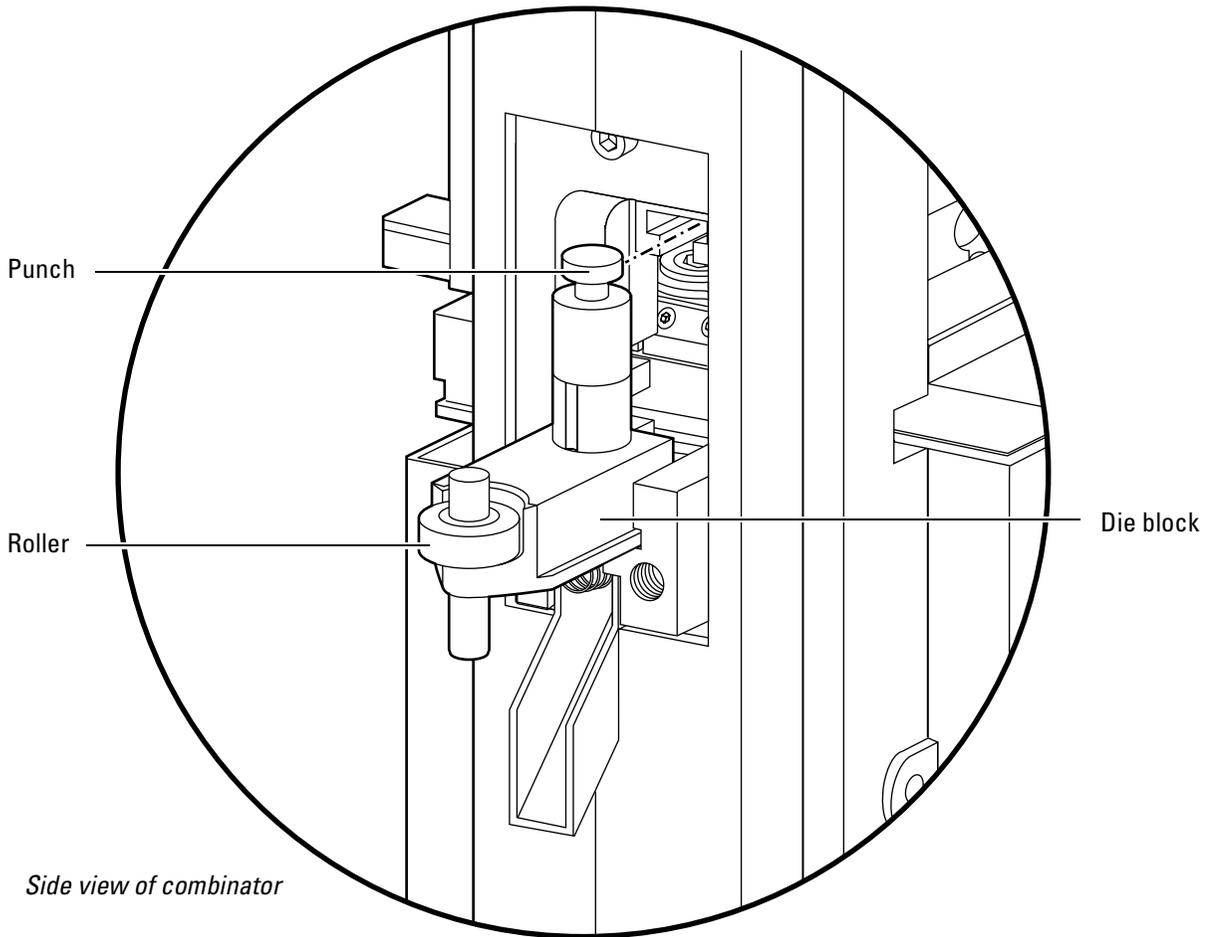

Figure 3.24 Lubricating the punch and die
2. Apply one drop of oil each of the sides of the die block. See Figure 3.24. Do not lubricate the roller or the punch and die compartment.